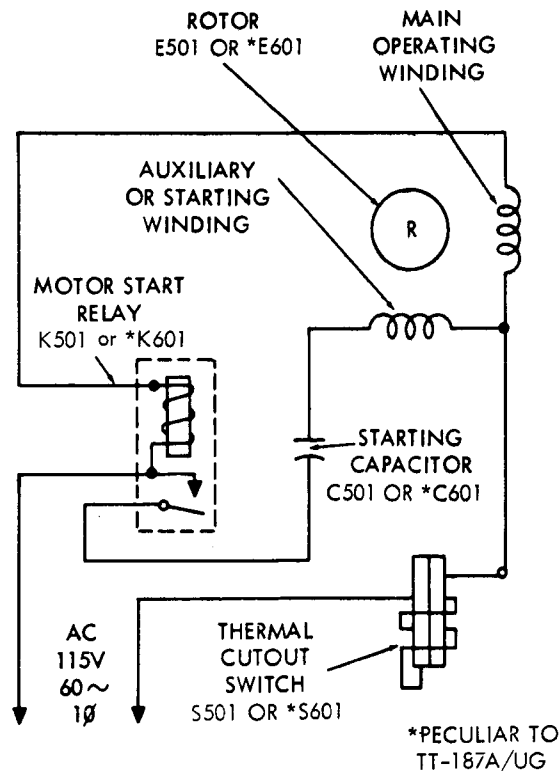

Figure 4-17. A.C. Synchronous Motor for TT-187/UG or TT-187A/UG, Schematic Wiring Diagram
a. Mechanical driving power for Distributor-Transmitter TT-187/UG and TT-187A/UG is supplied by synchronous a.c. motors. The difference between the two motors is in size and weight. Both operate on single phase 115 volt (plus or minus 10 percent) alternating current at a frequency of 60 cycles per second (plus or minus 0.5 cycle). Wiring for the two motors (figure 4-17) is identical except for circuit component values (see figure 6-37).